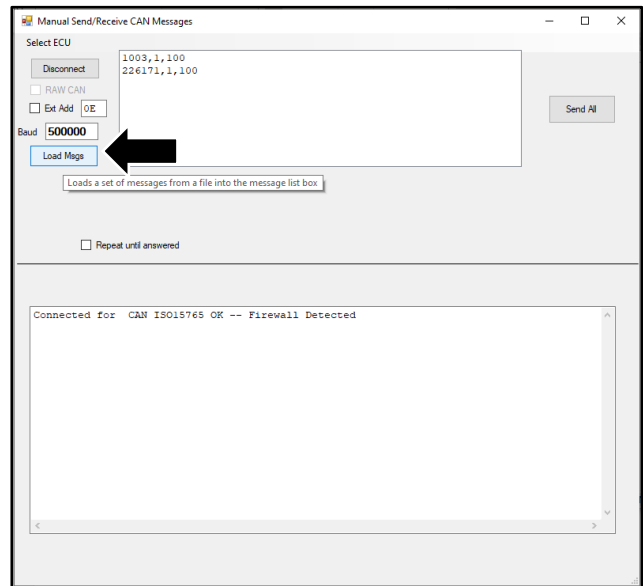

Figure 5
8. Click "Load Msgs" (refer to Figure 5).